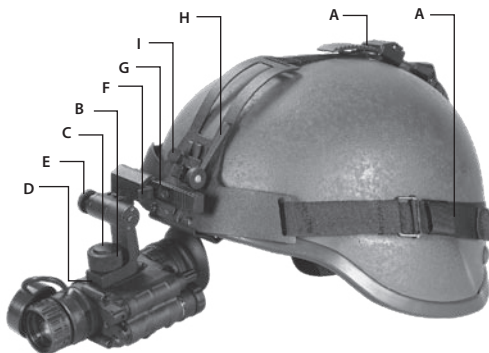

FIGURE 3-3. MOUNTING THE NYX-14 TO A HELMET
1. Attach the mount to the helmet as shown in Figure 3-3.
2. Adjust and tighten the straps (A).
3. Loosen the screw (B). With the button (C) pushed down, insert the NYX-14 rail into the guide (D) of the helmet mount bracket. Tighten the screw (B).
5. Push the button (F) and move the unit along the slide-rail (G) until the most comfortable position is reached.
6. Adjust the mount for comfortable using. Loosen the screw (B) and move the unit along the guide (D) for eye relief adjustment. Turn the lever (H) and move the unit along vertical slide-rail until the most comfortable vertical position is reached.
7. To remove the NYX-14 and turn it around, push the button down (E) and lift the unit up until it reaches the top position. Once it reaches this position, the unit will turn off automatically.
8. Push the same button (E) to lower the NYX-14 into the proper viewing position. Turn the unit on to proceed with your mission.
In Figure 3-3, the NYX-14 is shown in the correct position for the right eye. To readjust the NYX-14 for the left eye, reverse its positioning and reinstall it on the helmet mount bracket (see Figure 3-3). Use the second unit rail located on the opposite side of the unit. Push the button (F) and move the unit along the slide-rail (G) until the most comfortable position is reached.